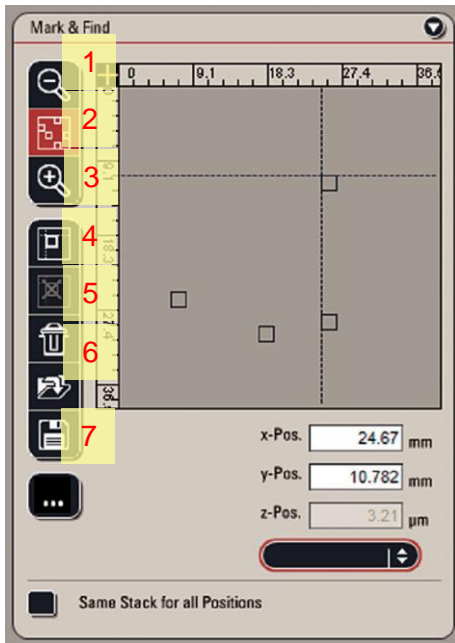

Fig. 35
This opens the 'Mark and Find' window as seen in Fig. 35. This window shows a grey overview field, which represents parts of the schematic area the stage can visit. The dotted cross indicates the present position of the stage, whereas all marked positions appear as little squares. The main field also shows two scale bars with distances given in mm. Two buttons in the top left corner allow zooming in (Fig. 35 – 1) or out (3). When the 'Show all positions' (second) button is activated (Fig. 35 – 2), all positions will be visible in the main field.
To mark the first position, find the desired position by using the SmartMove remote control (see Fig. 8) whilst scanning or looking down the eyepiece. Mark this position by clicking the 'Mark position' button (see Fig. 35 – 4). The coordinates (x, y, z) can be read out at the bottom of the field.
All positions can be selected from the pull-out menu at the bottom of the window. Unwanted positions can be deleted by visiting them and then pressing the 'Delete position' button (Fig. 35 – 5). The next button (6) deletes all marked positions. All marked positions can be saved by pressing the 'Save positions' button (7).